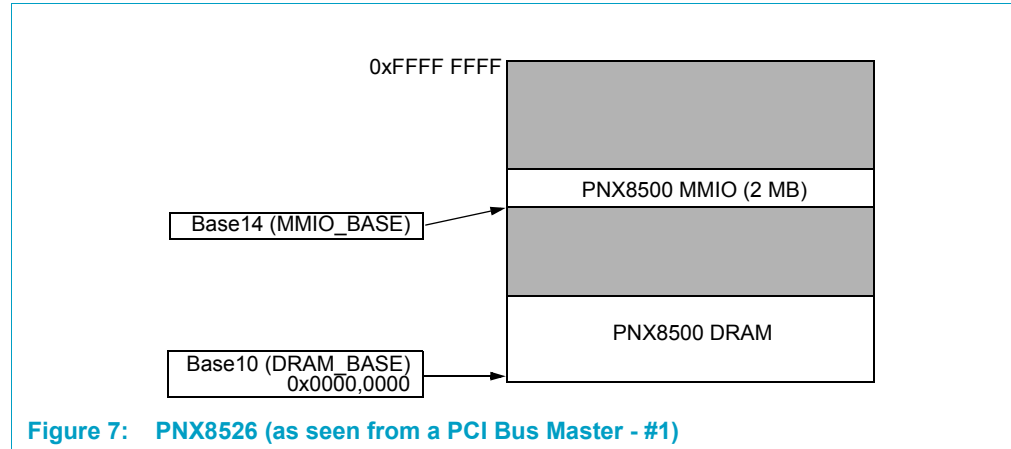

Figure 7: PNX8526 (as seen from a PCI Bus Master - #1)
**Remark:** PCI specification requires an aperture to be aligned at a boundary which is the same size as the aperture e.g., a 128-MB aperture will be located at a 128-MB boundary. External PCI bus masters see the memory map, but can only directly access the PNX8526 SDRAM and MMIO apertures, not the XIO aperture. See Figure 7.